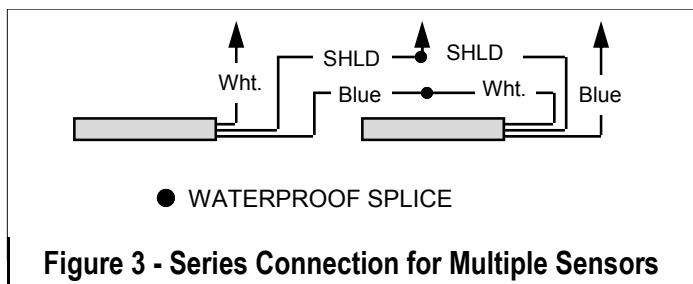

Figure 3 - Series Connection for Multiple Sensors
3. If the driveway is a two-car driveway, two sensors wired in series may be necessary for complete coverage; see Figure 3.
be supported by one processor), connect them as shown in Fig 3.
4. Set the "GAIN" control fully counter-clockwise to minimum gain. Drive past the sensor(s) at the slowest probable vehicle speed. Gradually increase sensitivity ("GAIN") until the sensor(s) consistently detects vehicle movement as indicated by relay closure. Be sure the detection range extends to the furthest edge of the desired protected area. **Do not use more sensitivity than is necessary to insure reliable vehicle detection.** If the detection area is too small, enlarge it by adding one or more sensors in series (see Figure 3). If the detection area is too large, move the sensor farther from the vehicle path.